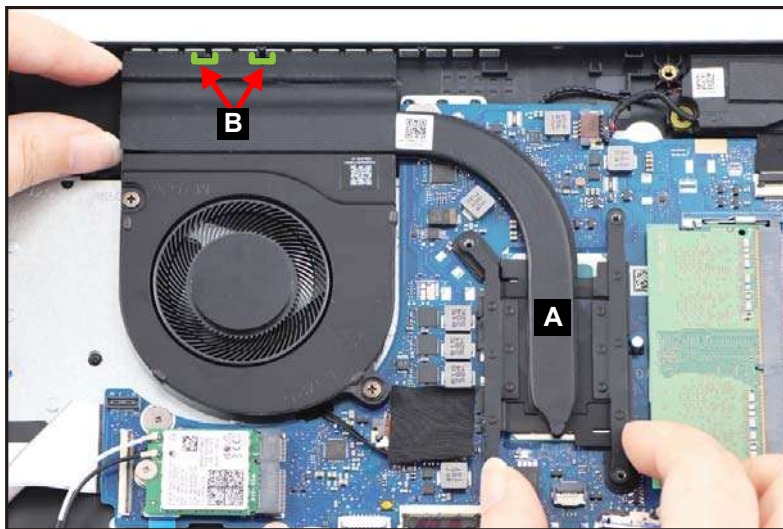

Figure 3-31. Heatsink Removal
2. Lift to release the heatsink (A) from the upper tabs (B). Then remove the heatsink from the mainboard and top assembly (Figure 3-31).